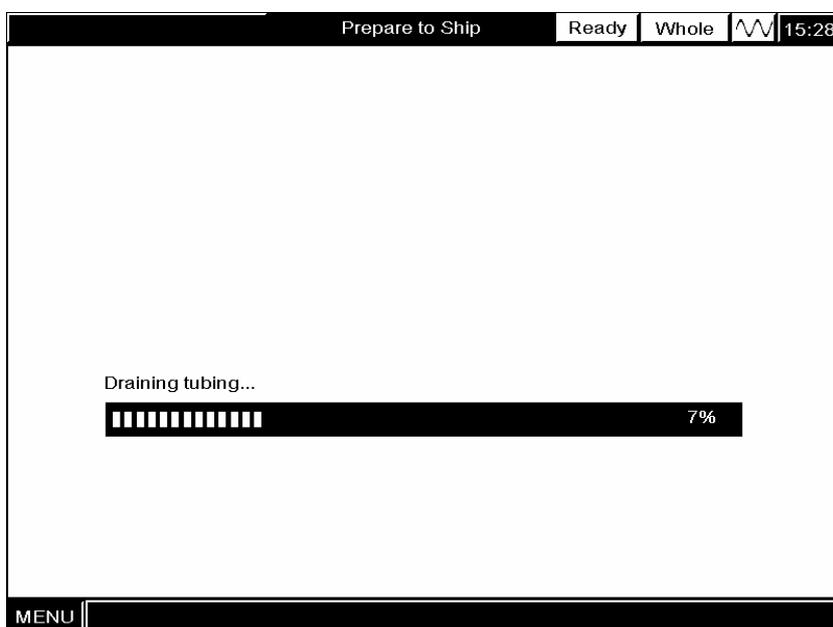

Figure10-37 Draining fluidic lines
3. The analyzer starts to drain the fluidic lines and the progress is displayed on the screen, as Figure10-37 shows.